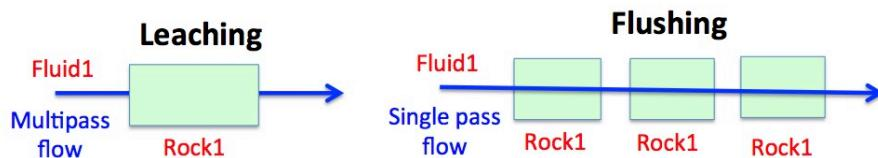

Figure 4.1: Conceptual models showing the two Process simulation types Leaching and Flushing in the single flow-through reactor (R) mode.
A multi-pass model consists of consecutive batches of fresh (unreacted) greisen fluids (Fluid 1) reacting with a leucogranite (Rock 1) to simulate the alteration mineralogy during the formation of a hydrothermal quartz vein and alteration halo in the granite. This model can be set up using the R mode in **Process** simulation and choosing the leaching modeling scenario (Fig. 4.1).
- In the next window tick the option "Leaching: Compos source", select the fluid (Fluid_greisen), then select the rock (R_leucogranite) as illustrated in Figure 4.1. Make sure to follow the exact sequence shown in Figure 4.1 so the script generated by the wizard will work automatically.
- Plot the results and scale the x- and y-axis to inspect the results, which should look similar to Figure 4.7. Note you can also modify the number of fluid aliquots by varying the number variable as indicated in Figure 4.1,
This model can also be set up using the R mode in Process simulation and choosing the flushing modeling scenario (Fig. 4.1).